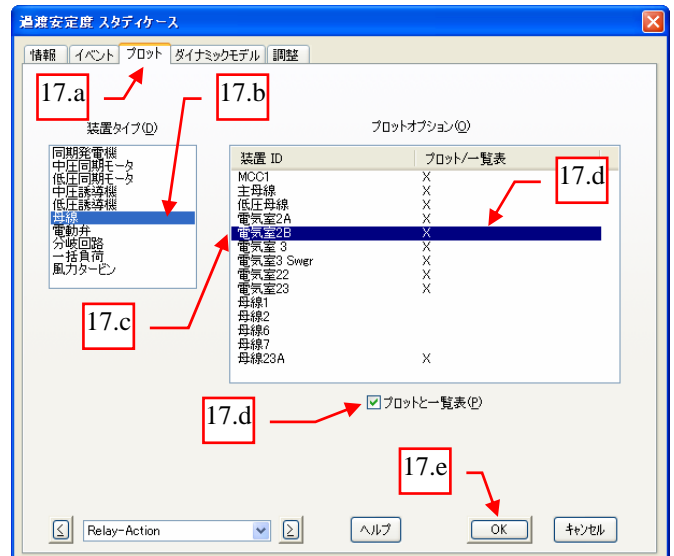

図 11
17. Since the concern is to verify frequency at bus “電気室 2B” when “CB1” opens, instruct the program to create plot profiles for the said bus. 図 11 参照